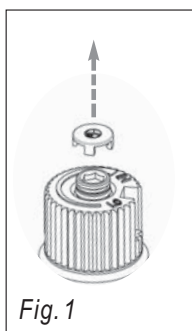

Fig. 1
- 12) Remove the black protection cap by hand from the high-low knob (Fig.1).